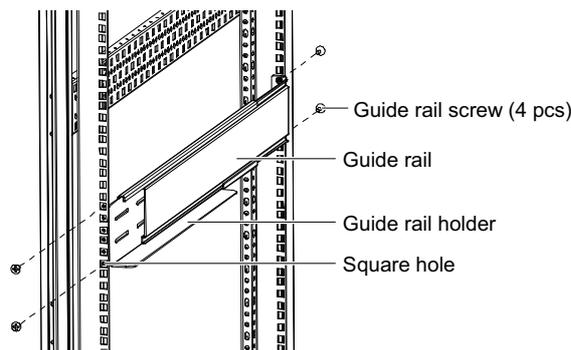

Figure 2-9 Installing guide rail
3) Align the installation holes of the guide rail with the square holes of the rack, fix the guide rail to the rack through the guide rail screws (a total of eight), each left and right guide rail needs four guide rail screws, as shown in Figure 2-9.